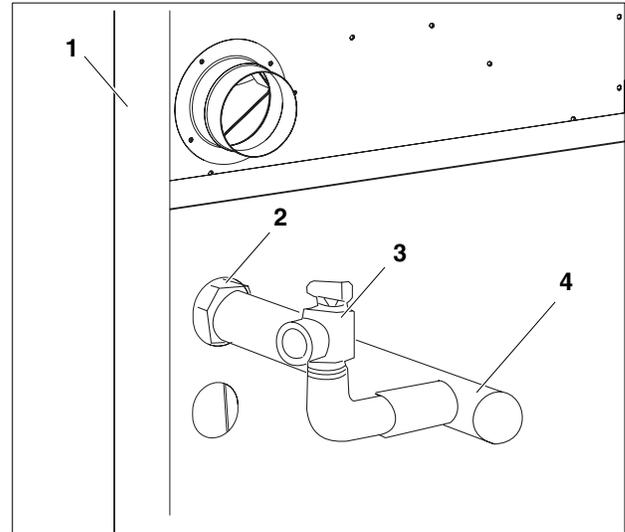

Fig. 6 Rear view
- Install the 90° street elbow (Fig. 6) and the relief valve (Fig. 6) on the boiler supply connection.